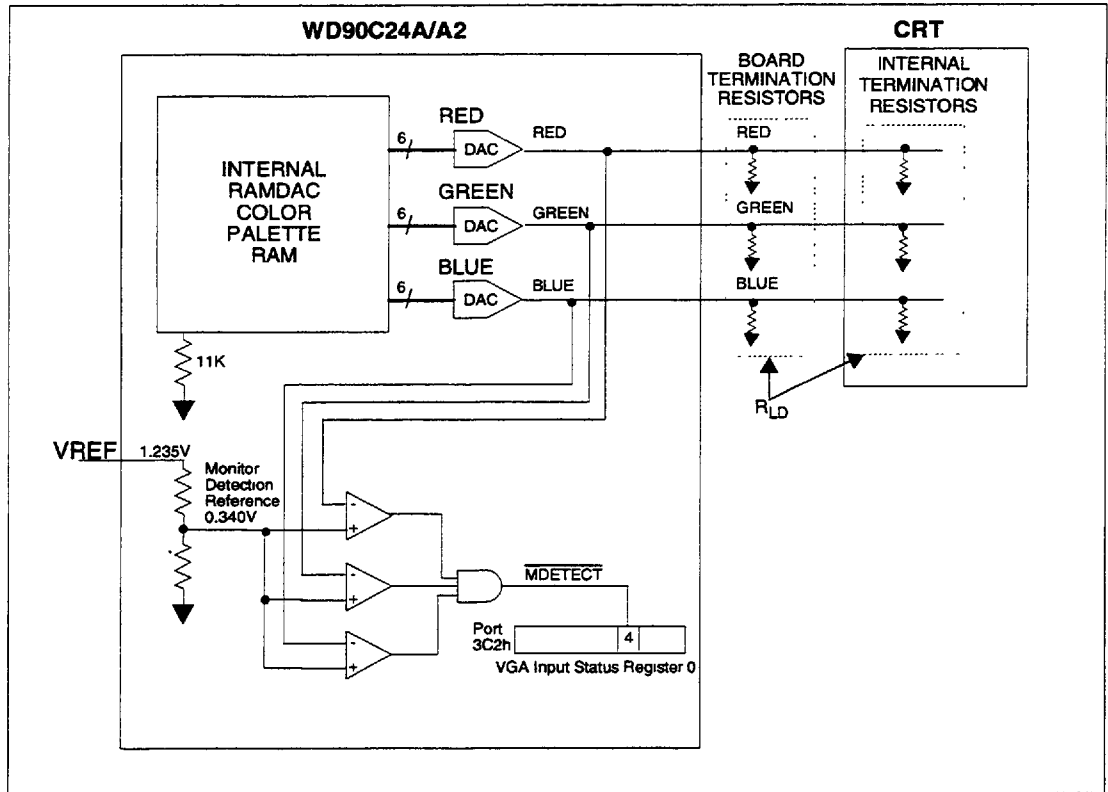

FIGURE 26-9. MONITOR DETECTION CIRCUIT FOR INTERNAL RAMDAC
- Monitor Detection Circuit for Internal RAMDAC (Figure 26-9)
Figure 26-9 shows the monitor detection connections for the internal RAMDAC.